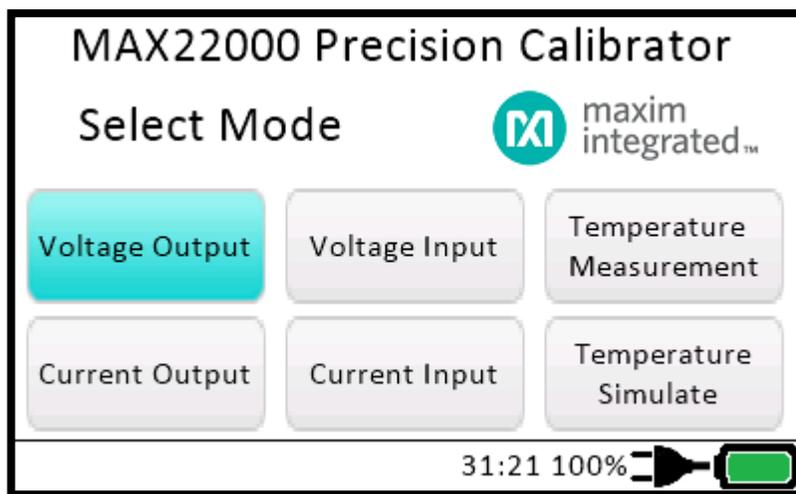

Figure 6. MAXREFDES183# Voltage Output mode.
8. To source voltage, click on the **Voltage Output** button (**Figure 6**).